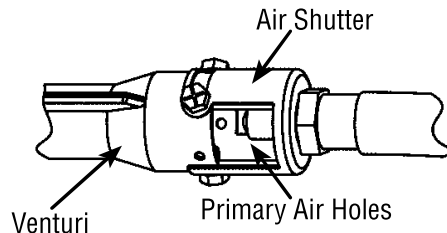

Figure 44 - Injector Holder on Outlet Burner Tube
2. Inspect burner, pilot and primary air inlet holes on injector holder for dust and dirt (see **Figure 44**).